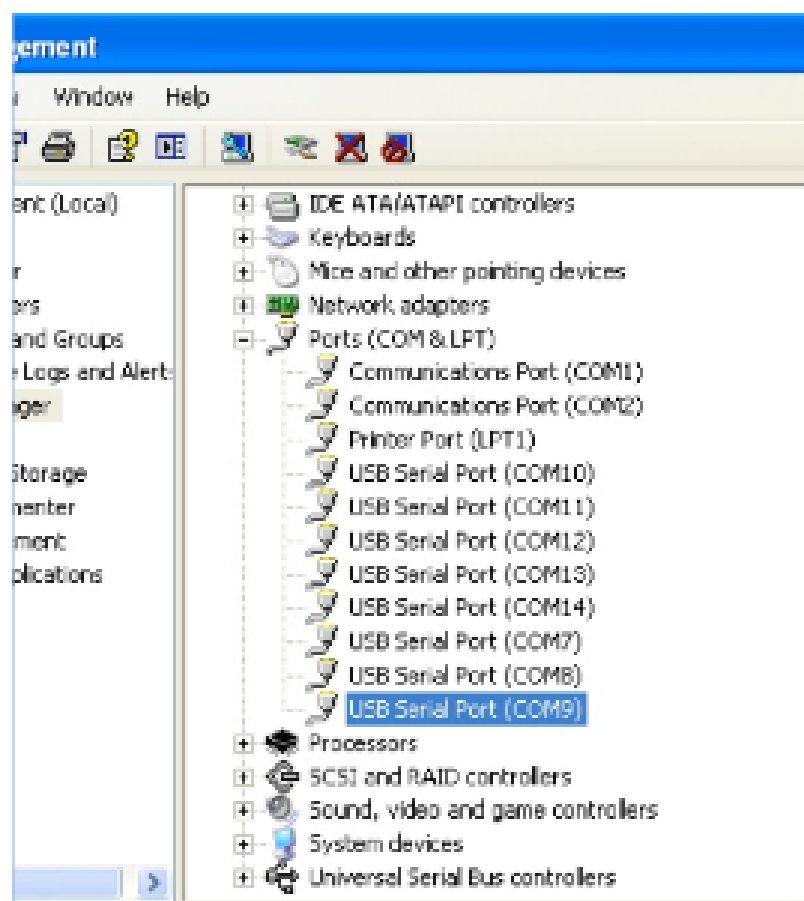

Figure 2: Device Manager Example
3. Make sure that the baud rate is set to 9,600 for mote CLI and 115,200 for mote/manager API and manager CLI. As an example , see Figure 2: